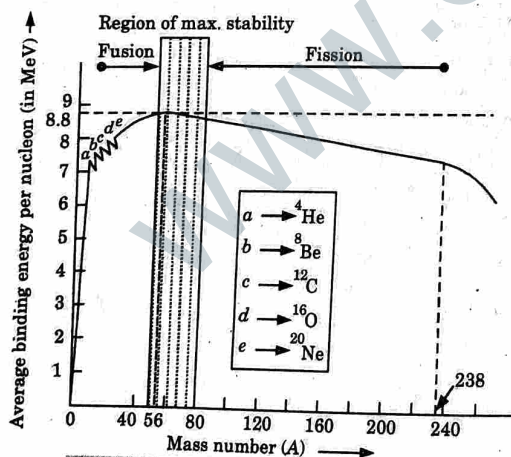

Fig. 2.7.1. Plot of binding energy per nucleon as a function of mass number.
- Fig. 2.7.1 shows binding energy curve. The average binding energy per nucleon is plotted against mass number for naturally occurring nuclei.